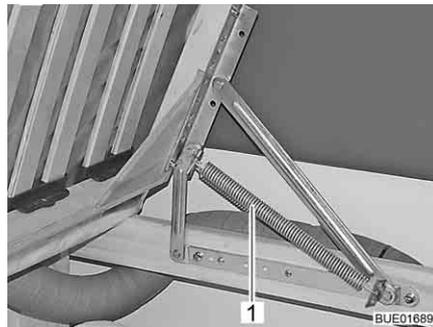

Fig. 87 Fixed bed
■ Lift slatted frame. The springs (Fig. 87,1) hold the slatted frame open.